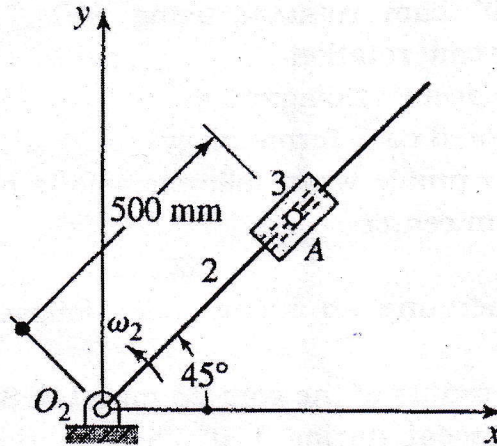

Figure 4
- b) In figure 4 block 3 slides outward on link 2 at a uniform rate of 30 m/s, while link 2 is rotating at a constant angular velocity of 50 rad/s CCW. Determine the total acceleration of point A of the block. [4]